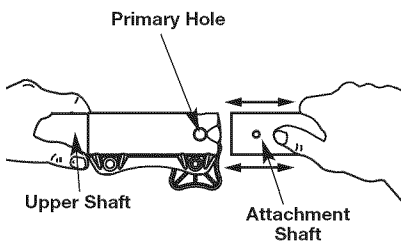

Fig. 4
**WARNING:** Before operating this unit, be sure that the release button is fully snapped into the primary hole (Fig. 2), and that the knob (Fig. 4) is securely tightened.
2. While firmly holding the trimmer attachment or other attachment, push it straight into the Convertible™ coupler until the release button snaps firmly into the primary hole (Fig. 4).
3. While firmly holding the upper shaft, pull the trimmer attachment or other attachment straight out of the Convertible™ coupler (Fig. 4).